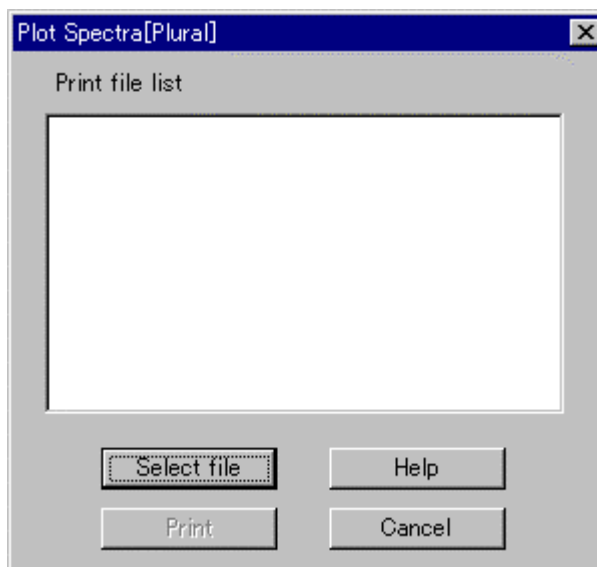

Fig. 7-25
From the File (F) menu, select the collective spectrum recording (L) command. A window as in Fig. 7-25 will appear.